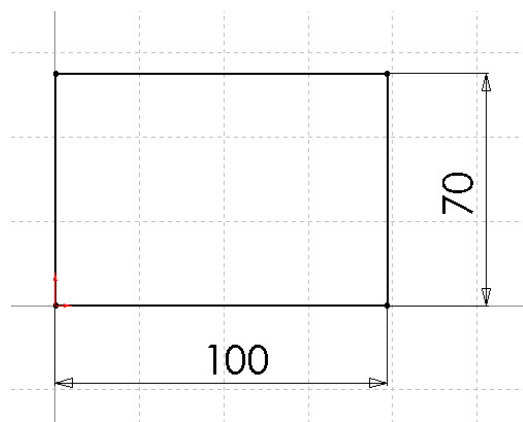

Figure 7 Base sketch of the Block
- 10) Change the dimension to **70 mm**. The sketch is fully constrained, and turns to black (default color) as shown in Figure 7.